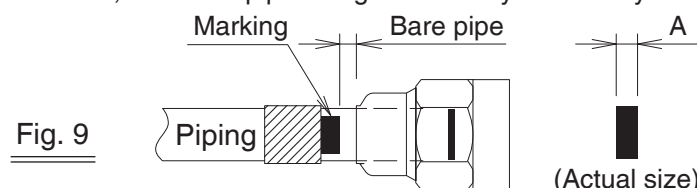

Fig. 9
Check again that the marking is at the base of the flareless joint. (See Fig. 9)
*Make sure that the width of the bare pipe is smaller than width A shown in Fig. 9.